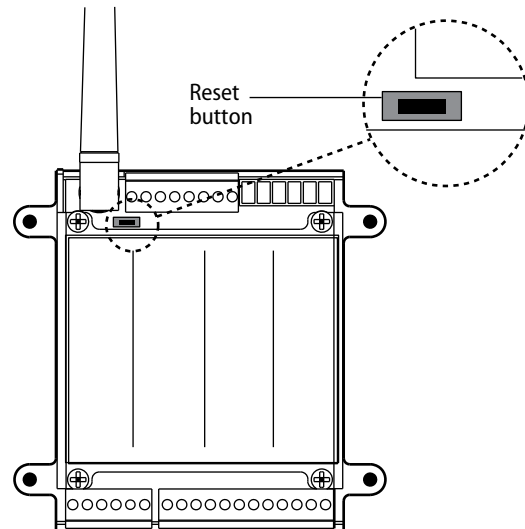

Figure 3 Using the reset button
- Hold the reset button until the green LED flashes five times and then release. See Figure 3.
- Hold the reset button for up to 30 seconds — until the green LED flashes and then the red LED flashes three times. Then release. See Figure 3.